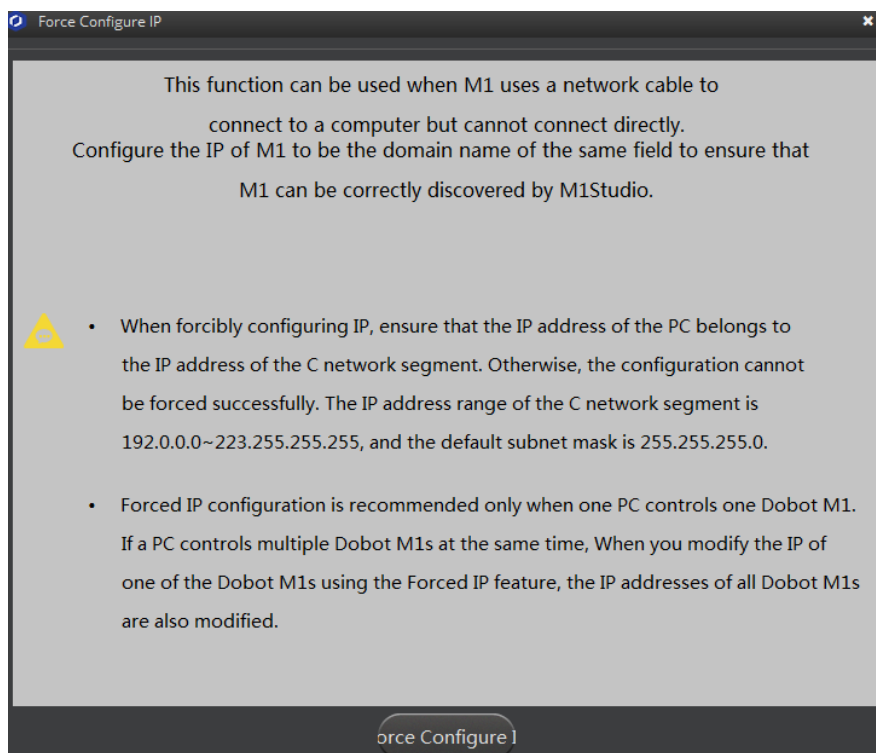

Figure 5.15 Forced configuration
Step 3 Click **Force Configure IP**, the IP address of Dobot M1 will be forced set in the same network segment of the PC, as shown in Figure 5.15.